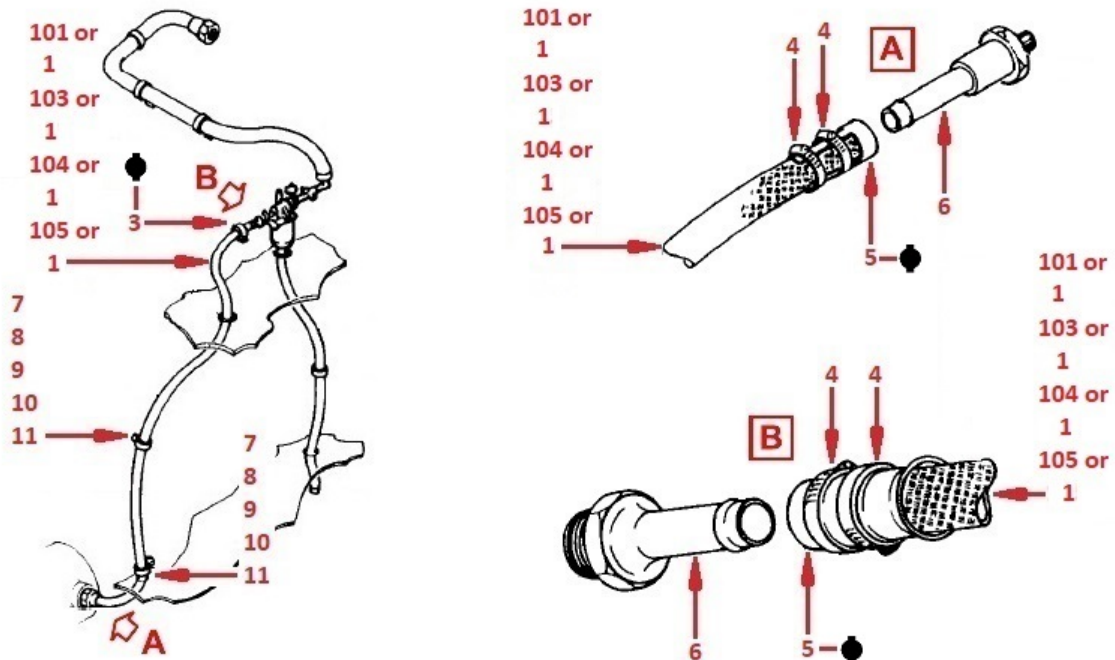
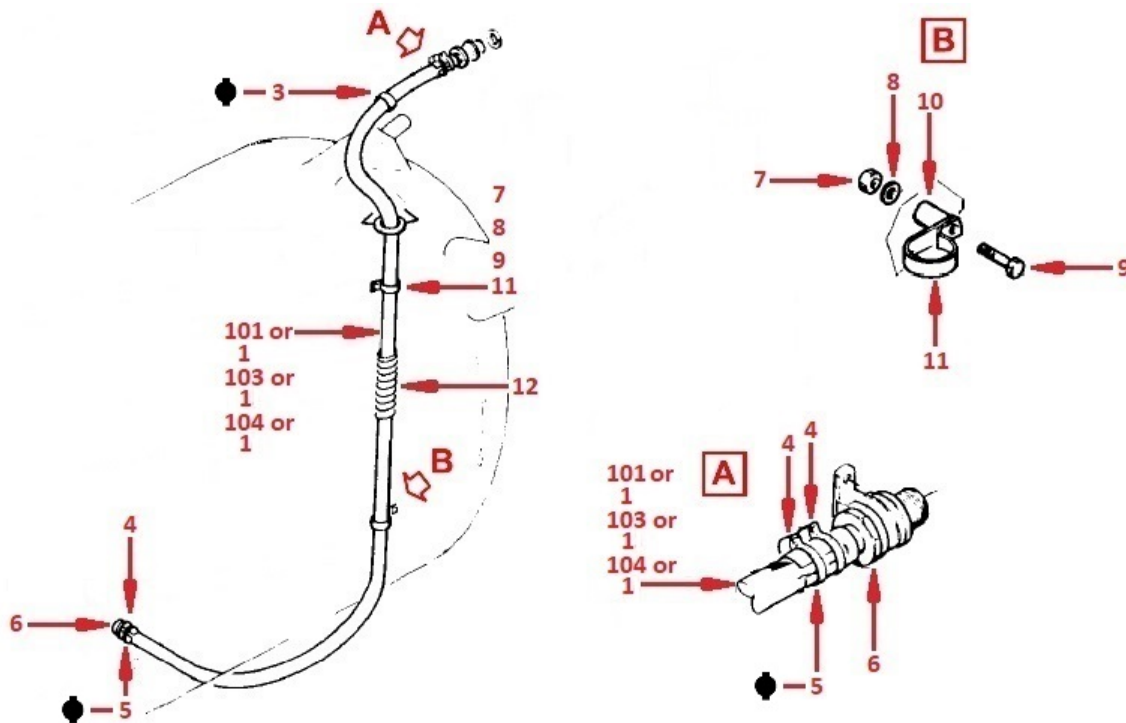

Figure 5
Figure 6
4.3.1. For helicopters that have only one fuel supply hose, refer to \(Figure 5\) or \(Figure 6\).
- Remove the binding clamps (4) from the fuel supply hose (101) or (103) or (104) or (105).
- Disconnect the fuel supply hose (101) or (103) or (104) or (105) from the end-fittings (6).
- Remove the covers (5) from the fuel supply hose (101) or (103) or (104) or (105).
- Keep the fuel supply hose removed (101) or (103) or (104) or (105) for cutting to length the new one for replacement.
- The binding clamps (4)
- The nuts (7)
- The washers (8)
- The screws (9)
- The spacers (10)